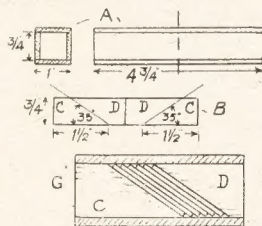

Fig. 2—Making the square tube
To connect the unit, remove the red and black plugs from the receiver battery leads, and form loops which can be fixed under the terminals, Fig. 2.
From some  $\frac{1}{8}$  in. fretwood make up the square tube seen at (A) in Fig. 2. Fix together securely with glue and a few fine fretwork pins, and see the tube is a good fit in the square holes in the holder. This being satisfactory, saw the tube into two equal parts across the centre. Cut two pieces of the  $\frac{1}{8}$  in. fretwood to  $\frac{1}{4}$  in. wide and about 4 in. long. On this mark off the lines at the angle shown at (B),